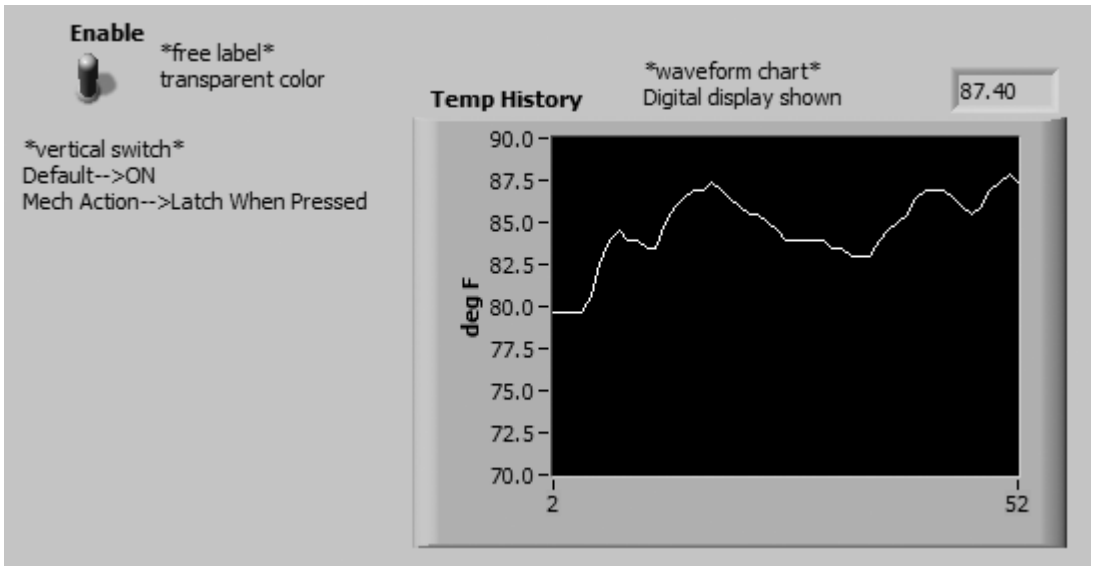

Figure 8.10
1. Open a new front panel. You will recreate the panel shown in Figure 8.10 (but feel free not to type in the comments—they're for your benefit).